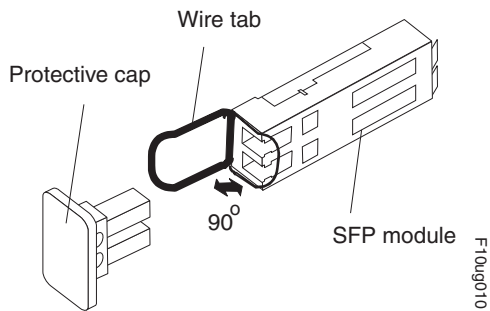

Figure 90. Unlocking the SFP module latch - wire variety
- For SFP modules that contain wire tabs, unlock the SFP module latch by pulling the wire latch outward 90°, as shown in Figure 90 on page 152.